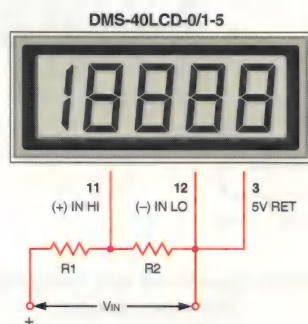

Figure 4. Input Attenuation Circuit
- 3. Engineering Scaling:** For measuring voltages greater than the full scale input range of a given meter, the input signal must be attenuated. A simple voltage divider (similar to that shown in Figure 4) will scale the input to within the range of the selected meter. R1 and R2 should be precision,  $\pm 1\%$ , metal film resistors with absolute TCR's less than 50ppm/ $^{\circ}C$ . See Ap Note 4 for more information on engineering scaling.